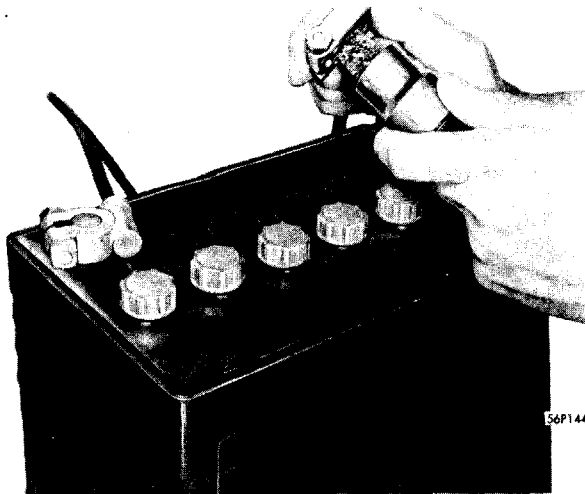

Fig. 1—Cleaning Inside of Cable Clamp
(2) The battery posts and terminals should be cleaned with a terminal cleaning tool, as shown in Figures 1 and 2 and the complete battery should be washed with warm water and baking soda and wiped clean with a damp cloth. **Care should be taken to keep cleaning solution out of battery cells to**